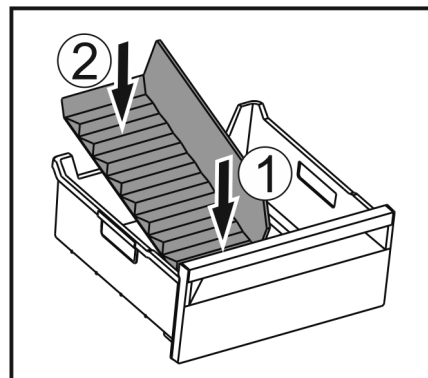

Fig. 164
- Insert the front part of the ice compartment divider. Fig. 164 (1)
- Lower the rear part of the ice compartment divider to the drawer bottom. Fig. 164 (2)